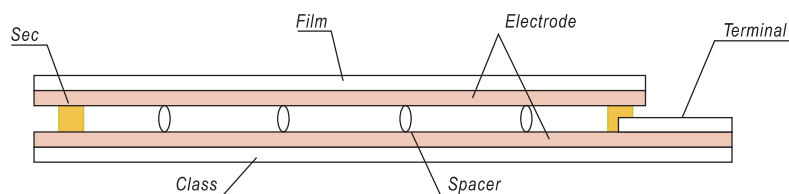

Fig 1
- A transparent electrode is formed uniformly over the entire effective surface on the film and glass of a touch panel (see fig 1).